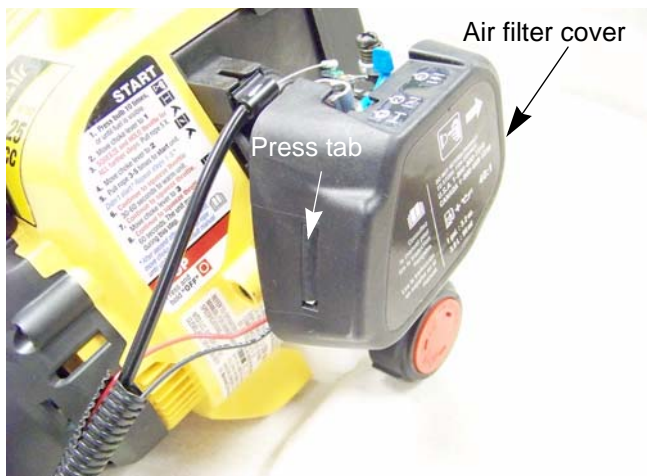

Figure 2.1
1. Remove the air filter cover by pressing in the tab on the front side of the filter housing and swinging the cover towards the rear of the engine. See Figure 2.1.